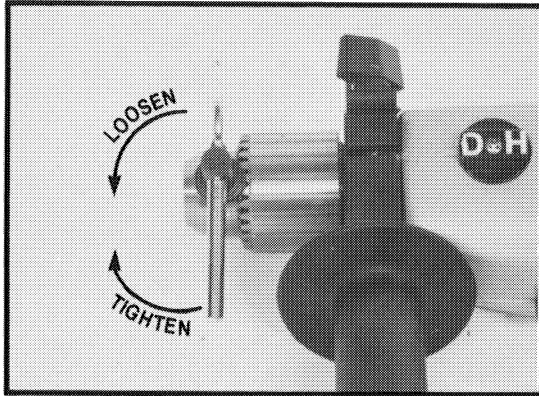

Fig. 1
5. Tighten chuck - insert chuck key into each of 3 keyholes in chuck body (Fig. 1) in succession and tighten securely by turning key clockwise.